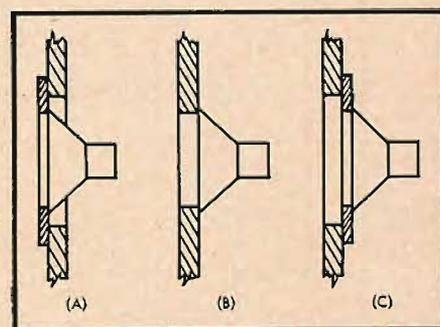

Fig. 3. Common methods of mounting loudspeakers in a wall.
This is the simplest method of loudspeaker mounting. Ideally the dimensions of the baffle should be infinite, but a very close approximation to this is achieved by mounting the loudspeaker in a wall, e.g. the partition wall between two rooms. This method is used quite frequently and the following points should be borne in mind: (1) It is rather important to mount the loudspeaker on a sub-baffle as shown at (A) in Fig. 3. The sub-baffle should be of substantial wood or chipboard $\frac{3}{4}$ to 1 in. thick. With the loudspeaker mounted as in (B) or (C) it will be seen that an air column is set up in front of the cone, the length of which is equal to the thickness of the wall. This air column will have a natural resonant frequency. If for example the wall is $2\frac{1}{2}$ in. thick then this frequency will be approximately 968.4 cps. As a general rule the thickness of the baffle should not exceed one-tenth of the diameter of the opening, unless it is bevelled.
(2) The position on the wall also calls for some consideration. It is preferable to mount the speaker near a corner since this increases the air loading on the cone and improves the bass radiation. The reason for this will be